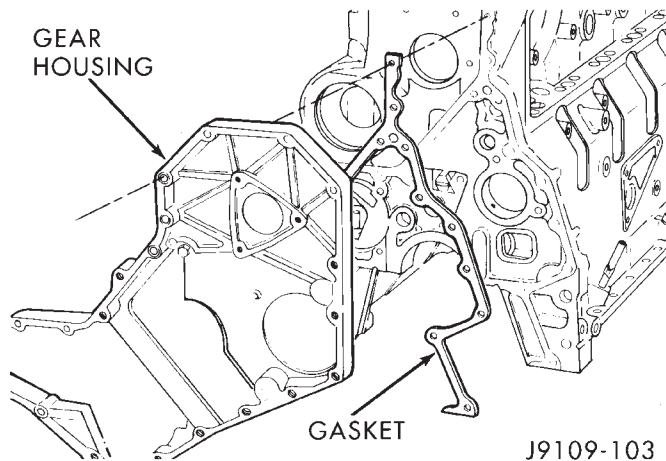

Fig. 57 Gear Housing/Gasket
(1) Remove the engine assembly from the vehicle.
(2) Remove the front end components and the gear housing cover (refer to Gear Housing Cover Removal for the proper procedures).
(3) Remove the following:
(4) Remove the gear housing and gasket (Fig. 57).
(5) Clean the gasket material from the cylinder block.